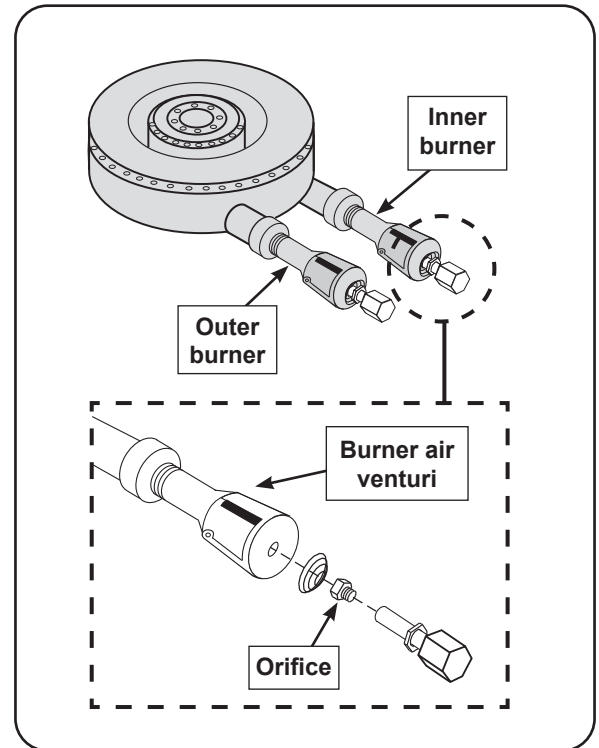

Fig. 39-1 Burner air shutter / orifice orientation
2. Locate the orifices. The orifice size is stamped on each orifice face (see Fig. 39-1).